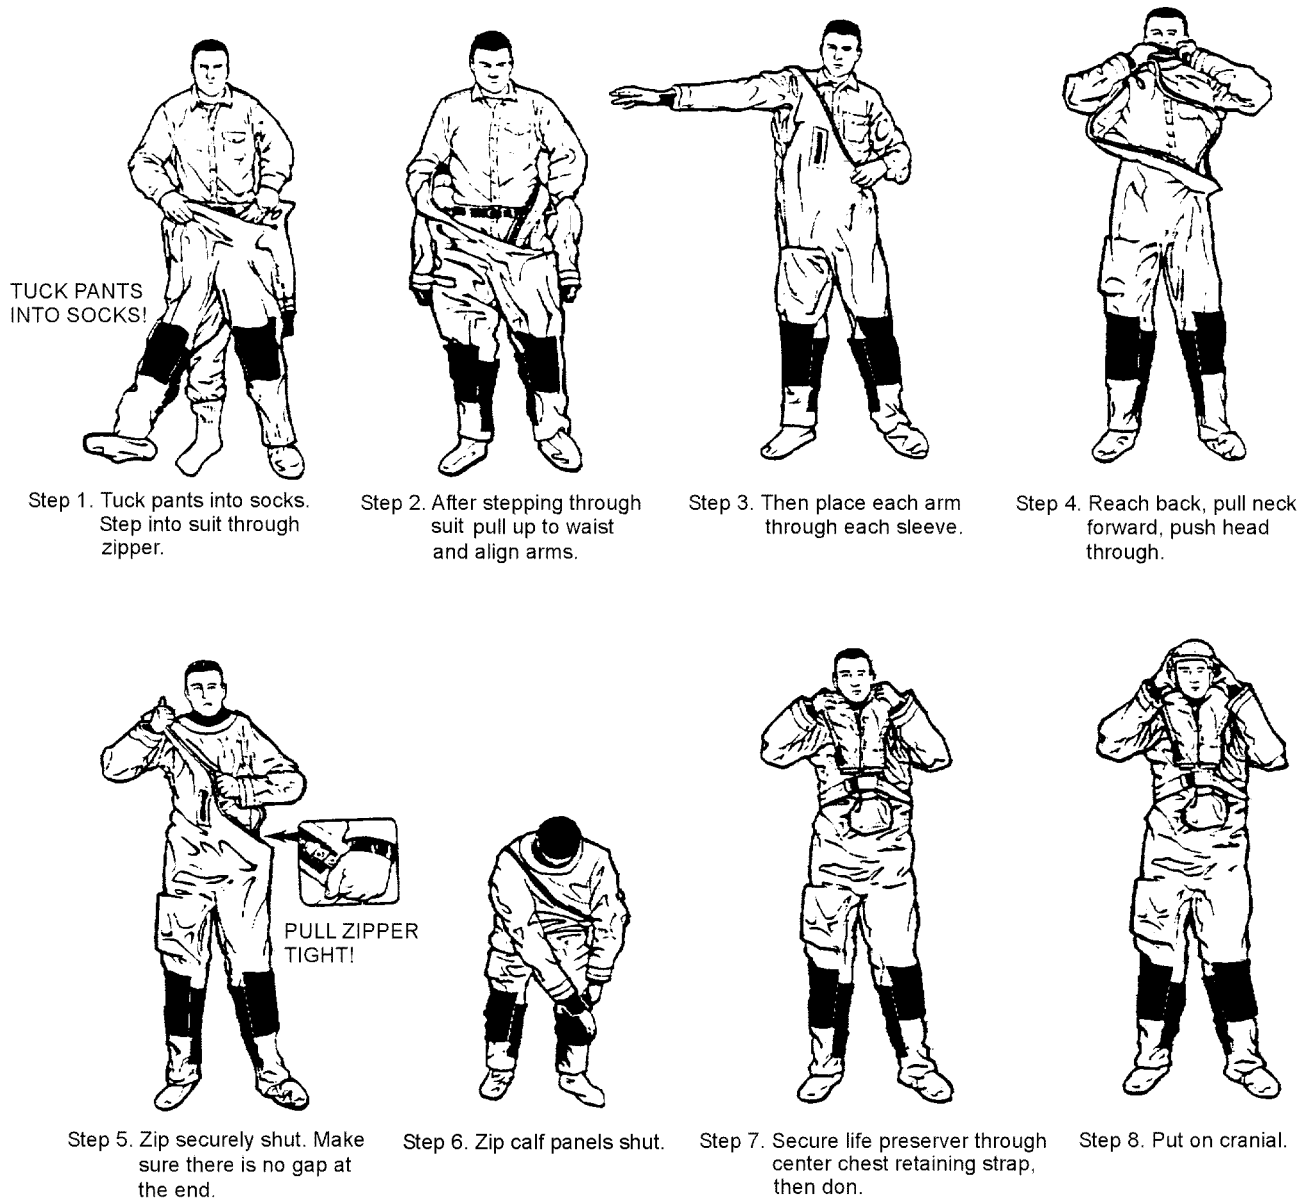

Figure 5-4B. Donning Steps for CWU-83/P Passenger Anti-Exposure Ensemble
1. Remove shoes/boots and sharp objects (jewelry, eyeglasses, and watches) (figure 5-4B). Sharp objects and jewelry shall be carried in the passenger's pocket to prevent damage to the coverall.